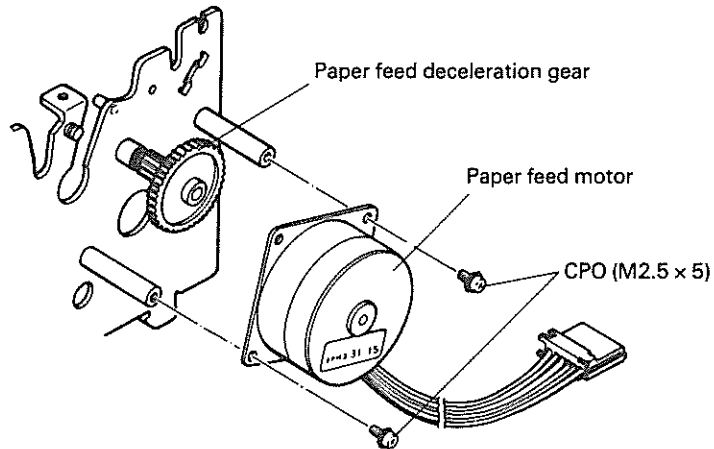

Fig. 4-23. Removal of Paper Feed Motor
(2) Removal of Paper Feed Motor (Fig. 4-23)